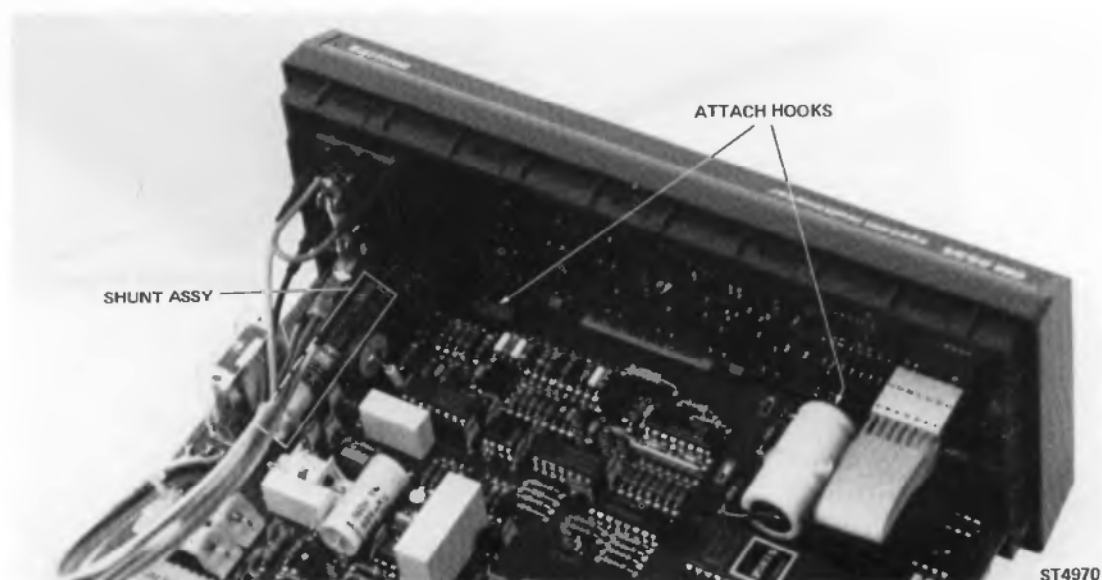

Figure 4.3
- Bend out the two hooks of the front assembly at the component side of the printed circuit board (figure 4.3)